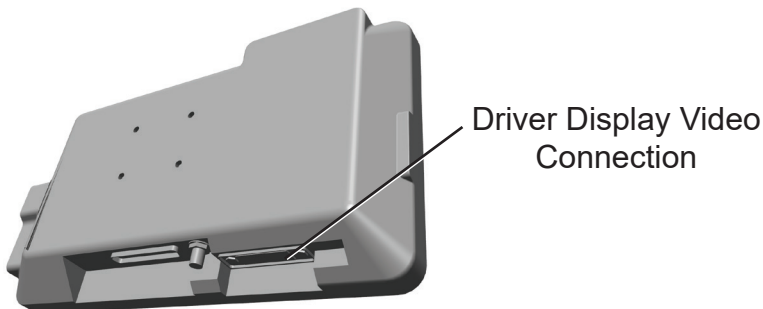

Figure 2
4. Disconnect the video cable from the driver display, see Figure 2.
5. Connect new cab video cable (A000V384) to the driver display video connection port, see Figure 2.